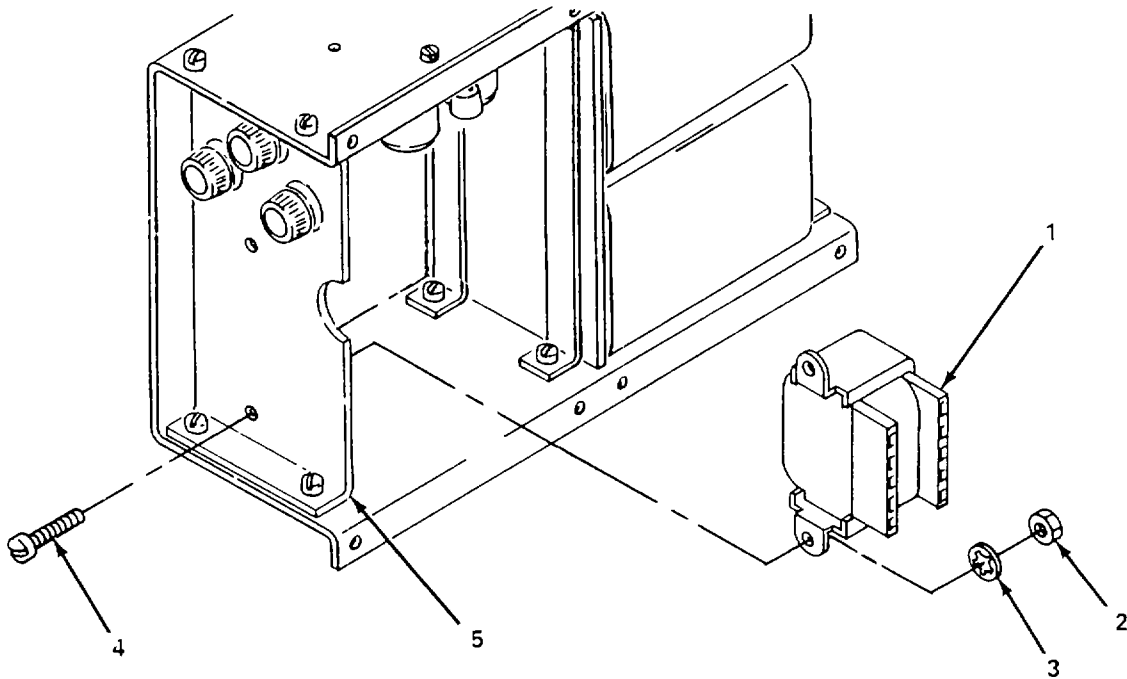

Figure 5-45. Battery Card and Case Power Transformer, Replace.
(4) *Replace power transformer. (figure 5-45)*
- (b) Tag and disconnect wires from power transformer (1).
- (c) Remove two nut (2), lockwashers (3) and screws (4) and remove power transformer (1).
- (d) Install power transformer (1) on card box bracket (5) and secure with two screws (4), lockwashers (3) and two nuts (2).
- (e) Connect wires to power transformer (1).